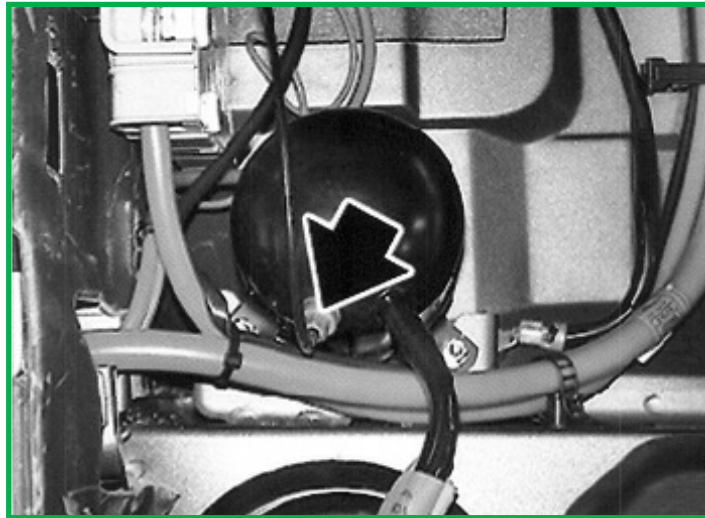

FIGURE 3
5. Carefully loosen the air fitting to deflate the air spring. (Figure 3)